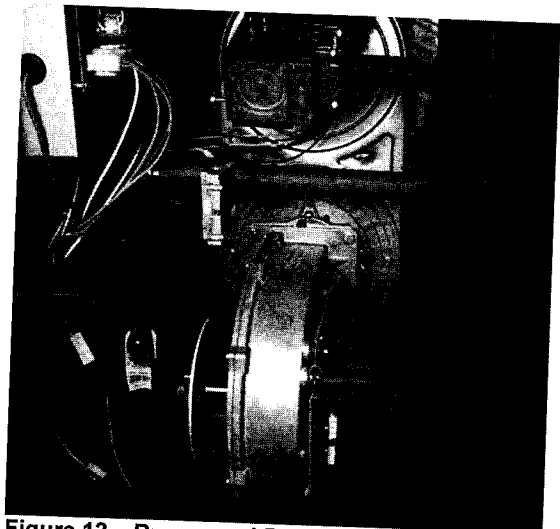

Figure 12 - Burner and Blower Assembly Installed
1. Replace burner and blower assemblies. See Figure 12.